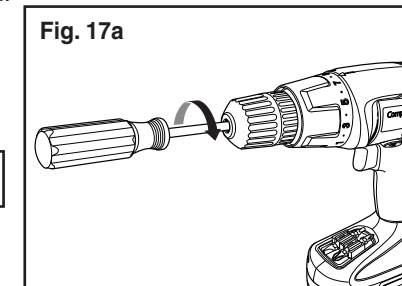

Fig. 17a
4. Open the chuck jaws and remove the hex key. Using a Phillips screwdriver, remove the chuck screw by turning it in a clockwise direction (see Fig. 17a).